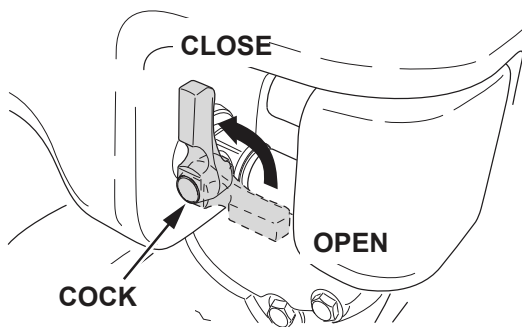

Figure 11. Water Tank Cock (Close)
2. When stopping sprinkling work, close the cock of water tank (Figure 11).